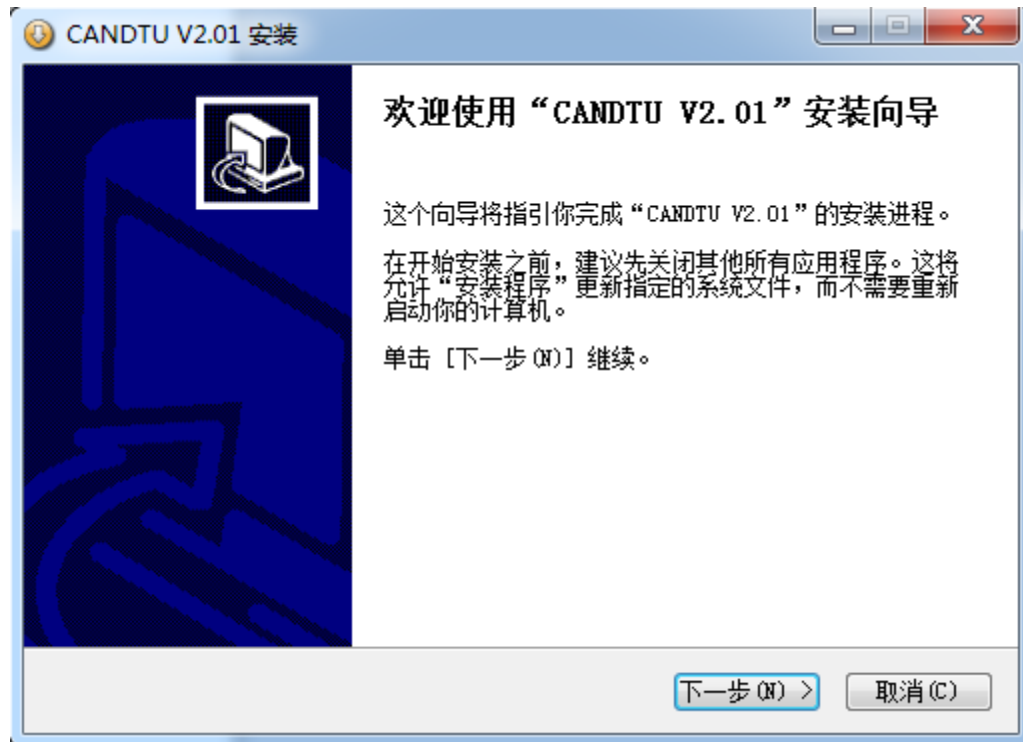

Figure 4.1 Installation wizard
1) Double-click the software installation package to install the software. The dialog box shown in Figure 4.1 appears.